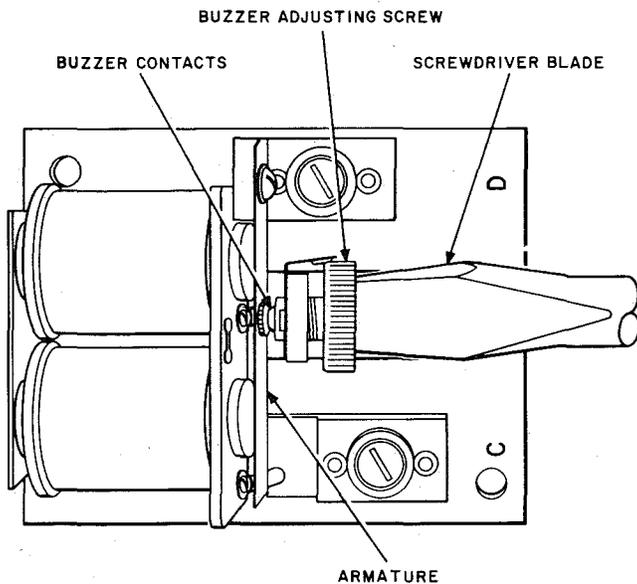

Fig. 19—KS-14485 L1 Buzzer
10.03 Insert a screwdriver having a 1/4-inch blade in the hole on the front of the case and engage it in the slot on the buzzer adjusting screw as illustrated in Fig. 19.